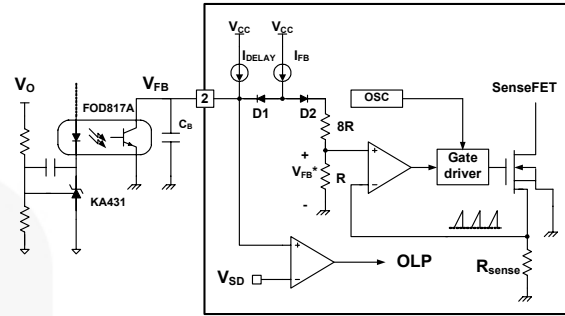

Figure 16. Pulse Width Modulation (PWM) Circuit
**2. Feedback Control:** FSQ500N employs current-mode control, as shown in Figure 16. An opto-coupler (such as the FOD817A) and shunt regulator (such as the KA431) are typically used to implement the feedback network. Comparing the feedback voltage with the voltage across the  $R_{sense}$  resistor makes it possible to control the switching duty cycle. When the reference pin voltage of the regulator exceeds the internal reference voltage of 2.5V, the opto-coupler LED current increases, pulling down the feedback voltage and reducing the duty cycle. This typically occurs when the line input voltage increases or the output load current decreases.
**2.1 Pulse-by-Pulse Current Limit:** Because current-mode control is employed, the peak current through the senseFET is limited by the non-inverting input of PWM comparator ( $V_{FB}^*$ ), as shown in Figure 16. Assuming that 225 $\mu$ A current source flows only through the internal resistor ( $8R + R = 12k\Omega$ ), the cathode voltage of diode D2 is about 2.7V. Since D1 is blocked when the feedback voltage ( $V_{FB}$ ) exceeds 2.7V, the maximum voltage of the cathode of D2 is clamped at this voltage, clamping  $V_{FB}^*$ . Therefore, the peak value of the current through the senseFET is limited.